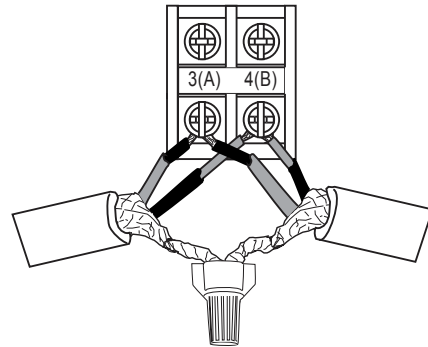

Figure 21: Communications Cable Connection at IDU
12. If the communications cable is to be daisy chained to another IDU, connect the communications cable for that IDU as well. Connect the shields of the two cables together with a field-provided wire nut/cap as shown in Figure 21. Ensure the shields are isolated from the chassis and terminals of the IDU.